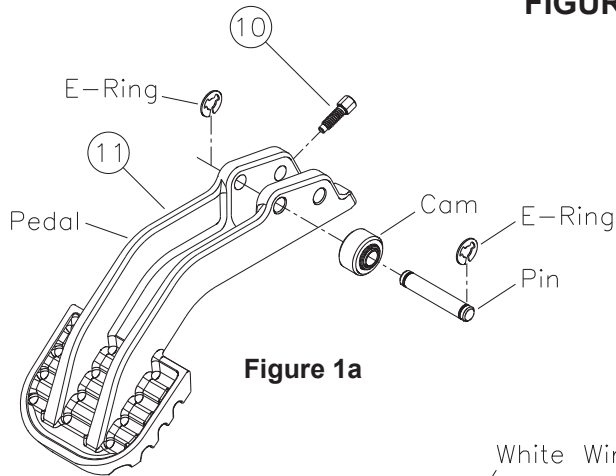

Figure 1a
12. Inspect the pins and cam on pedal assembly (11) for wear, be sure cam moves freely. See Figure 1a.